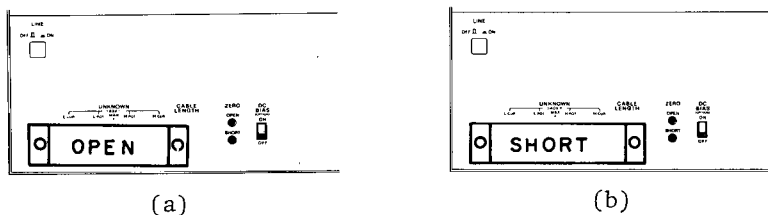

Figure 4-4. Open/Short Test Setups.
1. Connect Open (0S) termination directly to the 4277A UNKNOWN terminals as shown in Figure 4-4 (a).